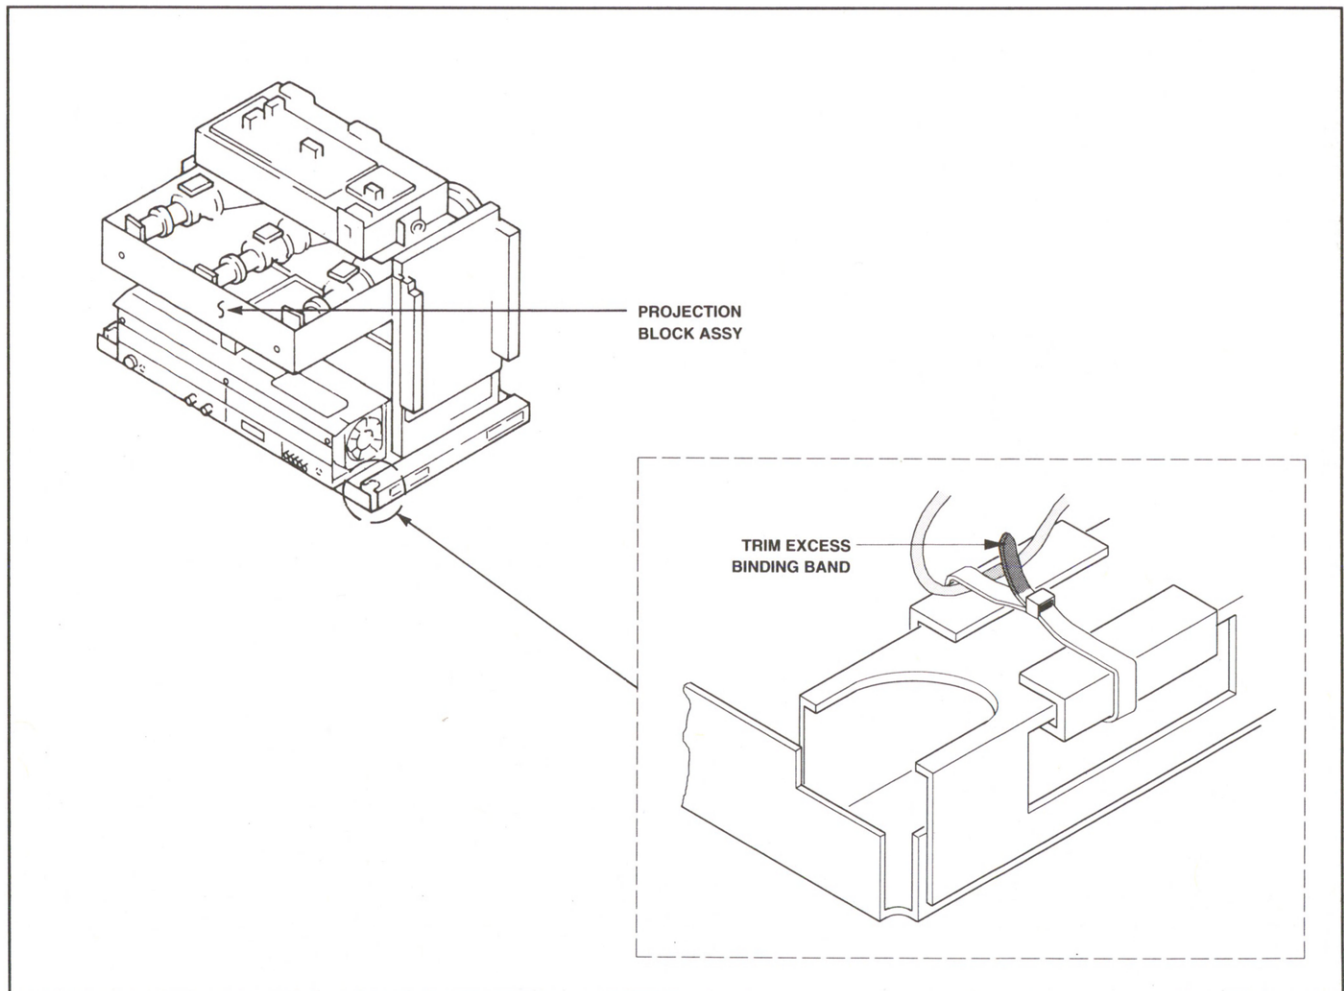

Figure 3
5. Without removing projection block assembly, fasten wire on each side to bottom side of chassis, using binding band, as shown in Figure 3.